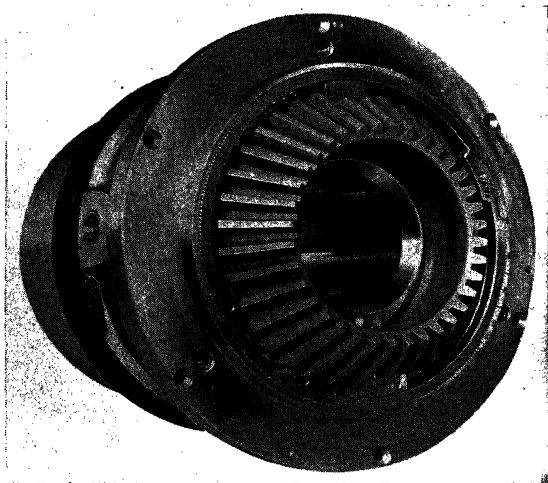

FIG. 35.—Piston and cam assembly—low-pitch position, high r.p.m. The setting is stamped on the ring outside the gear.
**Resetting the Positive Stops.**—1. Lift out the uppermost stop ring. This is the high-pitch stop ring and is marked "Set to High Pitch" on one lug and "Assemble This Stop Last" on the other lug (see Figs. 35 and 36).